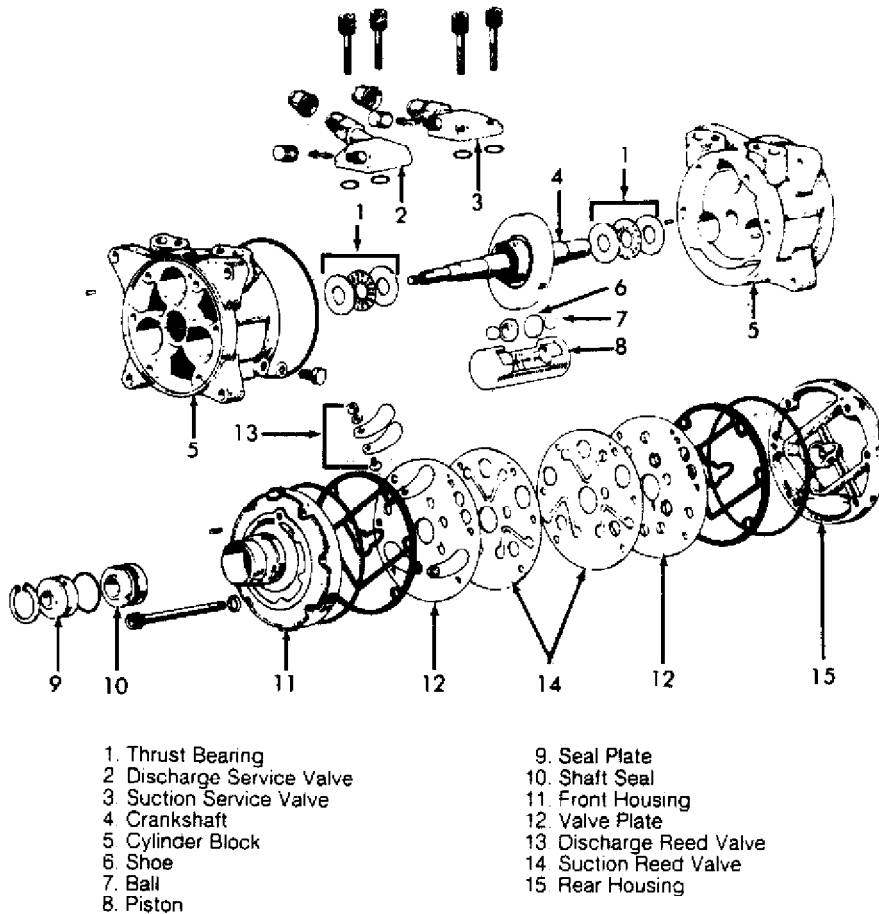

Fig. 14: Nippondenso 6-Cylinder Compressor
5) Remove 6 through bolts from front head of compressor and discard washers. Tap head loose from compressor; be careful not to scratch sealing surfaces. Remove snap ring (if equipped) from front housing. Press seal plate out. Remove seal from shaft. See Fig. 14.